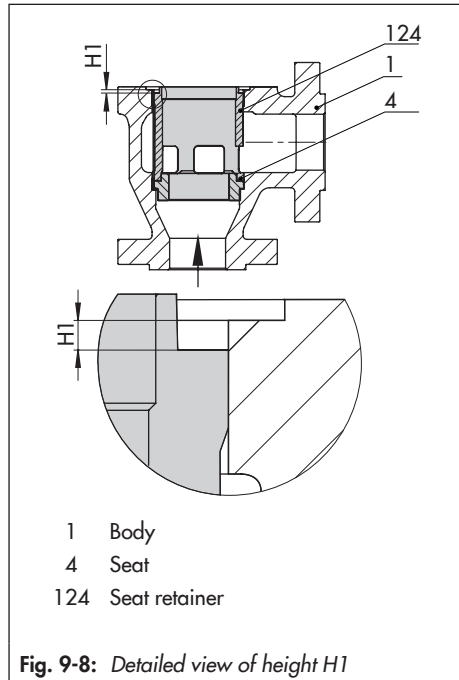

Fig. 9-8: Detailed view of height H1
H1 is the height between the facing of the seat retainer (124) and the facing of the body (1). See Fig. 9-8.